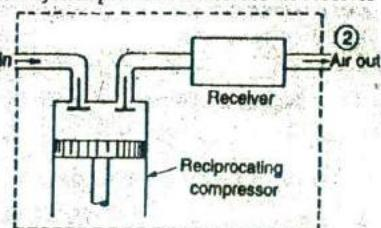

Fig. 3.35. Reciprocating compressor.
7. *Reciprocating compressor*. A reciprocating compressor, as shown in Fig. 3.35, is a device which compresses air and supplies the same at a considerable higher pressure and in small quantities. The reciprocating compressor is considered as a steady flow system provided it includes the receiver which reduces the fluctuation of flow considerably.